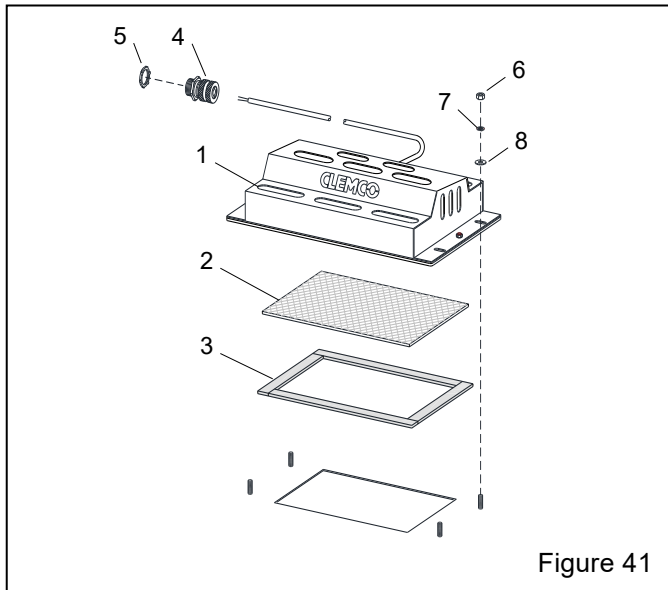

Figure 41
9.4 LED Light Assembly – Figure 41